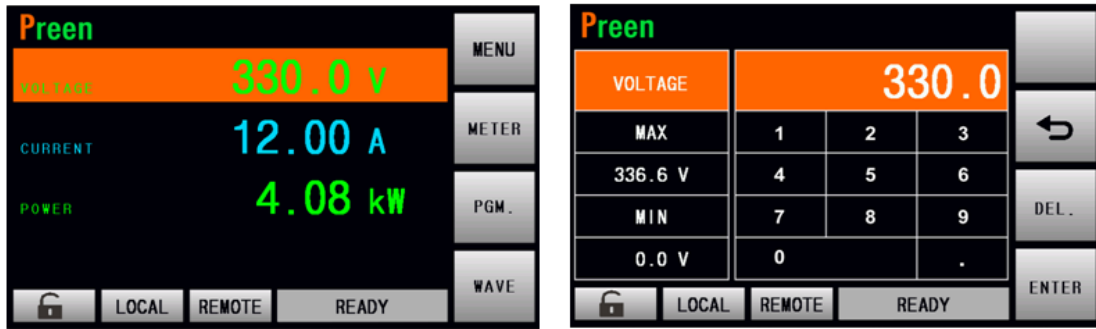

Figure 3.6 CV mode setting on the MAIN page
3.3.1 Constant voltage (CV) mode setting
Press the item VOLTAGE on the MAIN page to enter into the voltage setting for the constant voltage (CV) mode (refer to Figure 3.6). The voltage range varies according to the models (refer to Subsection 1.3). Below is an example of model ADG-L-330-12, of which the output voltage ranges from 0.0V~ 336.3V. The factory default maximum setting voltage is approximately 102% ($336.6 = 330V * 1.02$) of the maximum rated output voltage of the supply.